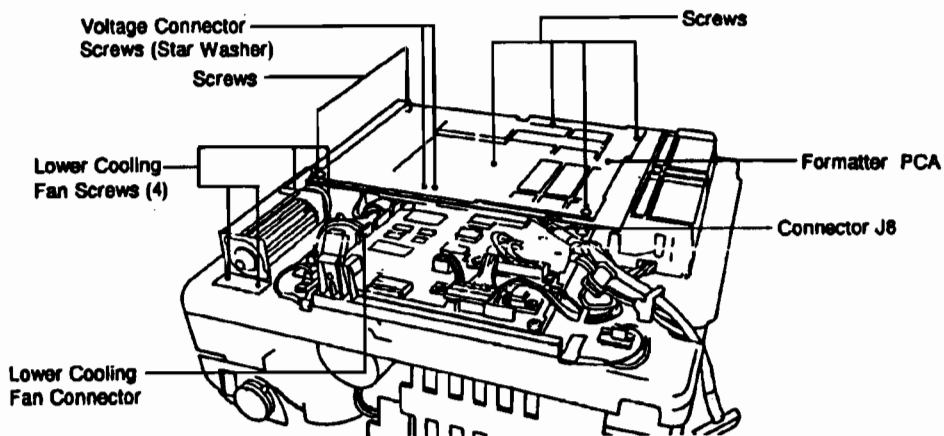

Figure 6-59. Formatter PCA
2. Disconnect connector J8 (connects to the Control Panel. See Figure 6-59).
3. Remove the (2) screws with star washers at the Voltage Connector (see Figure 6-59) and the (4) screws securing the PCA (2 at the front, 1 at the long edge, and 1 in the center of the board).
4. Remove the (2) screws connecting the I/O Connector Plate to the printer's base plate.